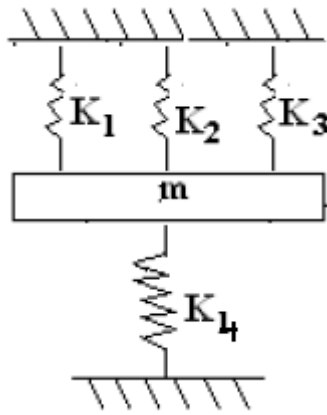

Figure 2
7. Find the frequency of the spring shown in figure 2: